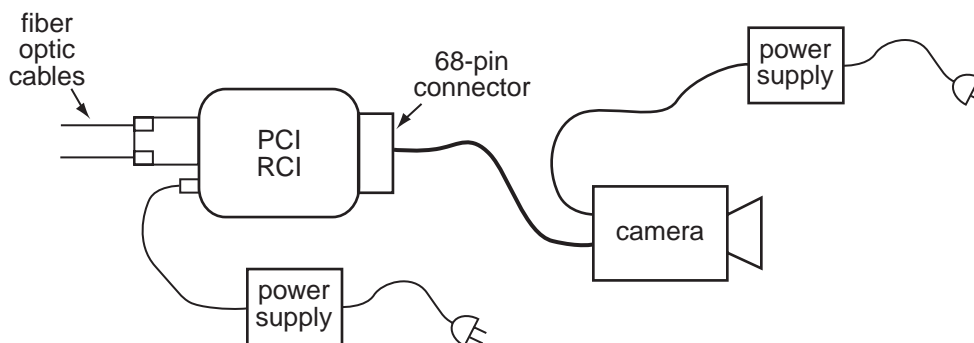

Figure 1. Cabling the PCI RCI
1. Cable the PCI RCI to the PCI FOI board in the host computer, to the camera, and to the power supply as shown in Figure 1.